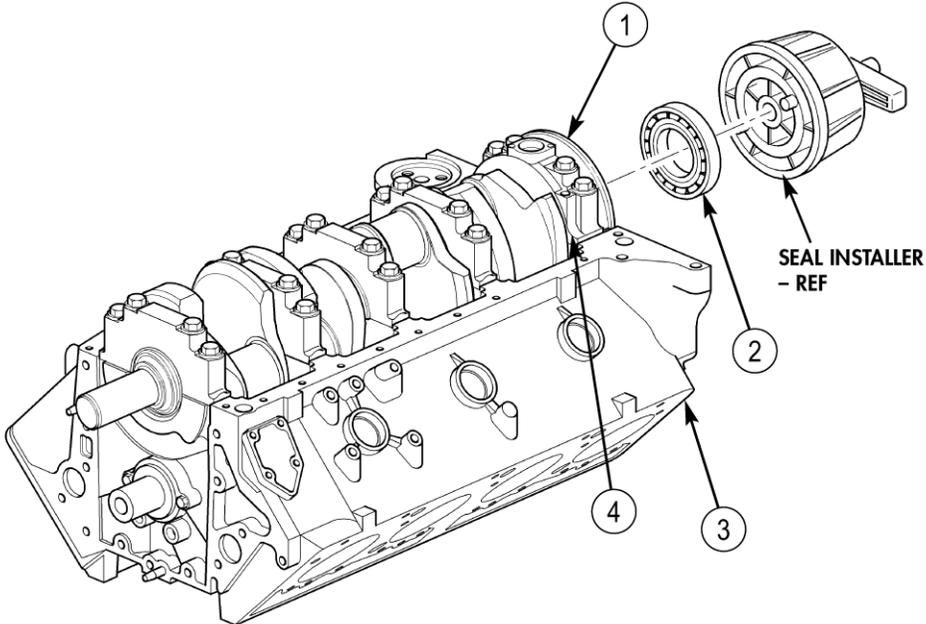

Figure 5
18. Coat rear crankshaft (1) surface with engine oil, and lightly coat lip of rear main oil seal (2) with engine oil as shown in figure 5.
19. Install rear main oil seal (2) with spring cavity towards cylinder block (3) on crankshaft (1) as shown in figure 5.
20. Using seal installer, drive rear main oil seal (2) in until tool bottoms against cylinder block (3) and rear main bearing cap (4) as shown in figure 5.